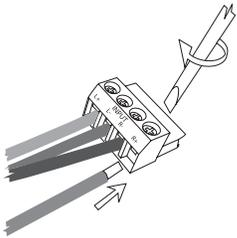

Figure 4
- 2.) Insert each wire from the amplifier into the proper L+, L-, R+ or R- **input** terminal and use a small screwdriver to tighten each screw; see Figure 4. **Make sure to observe proper polarity for each connection.**
- 3.) Insert each wire from the speakers into the proper L+, L-, R+ or R- **output** terminal and use a small screwdriver to tighten each screw; see Figure 4. **Make sure to observe proper polarity for each connection.**